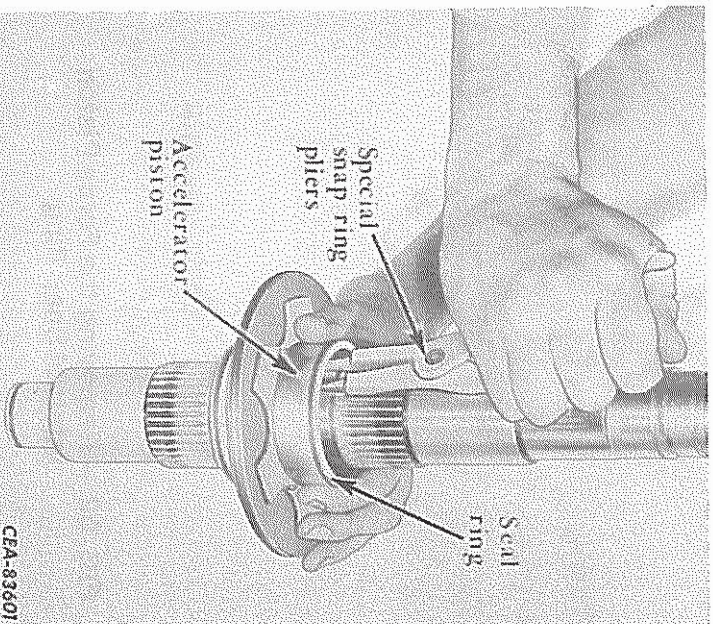

FIG. 54 — Removing the Accelerator Piston Snap Ring
44. Push the accelerator piston away from the snap ring securing it to the shaft and, using a pair of special snap ring pliers No. 1 020 441 R1, remove the snap ring (Fig. 54).
groove and install the snap ring. Install the hook type seal ring on the accelerator piston (Fig. 54).